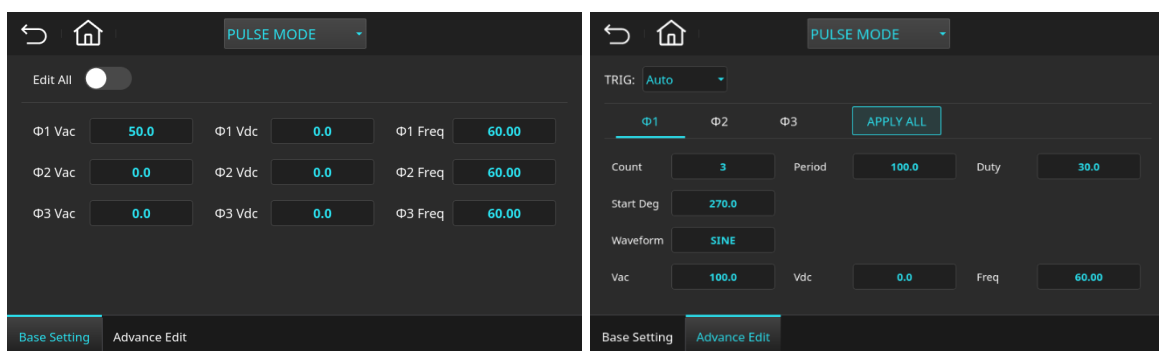

Figure 5-22 Pulse Mode Setting Page (Example Parameters for Phase 1)
5. Set TRIG = Auto and edit the parameters as shown in Figure 5-22.